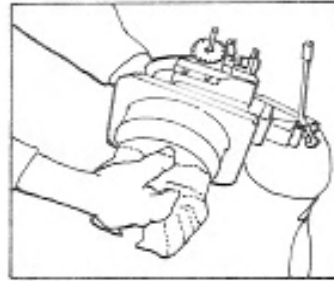

Fig. 20
- (5) Remove the wick from the wick holder (Fig. 20)